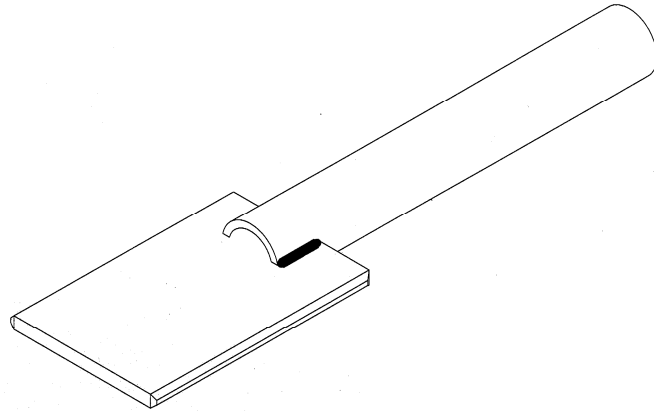

Figure 8 – Geokon Coupling Tool
3. Slide the Geokon repair coupling onto the casing and align the grooves using the Geokon Coupling Tool (Figure 8). Allow the cement to cure, according to the directions on the label.